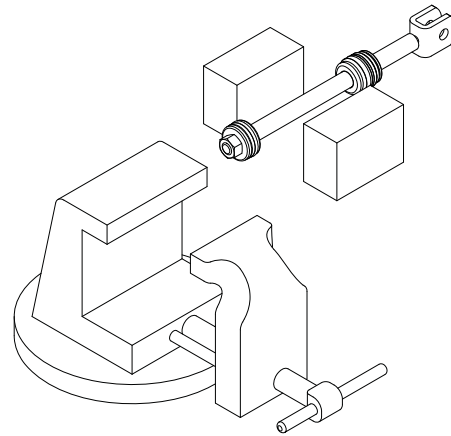

Figure 6-4, Cylinder Shaft
6. Clamp the rod assembly in a soft jawed vise on the wrench flats, **not on the rod surface**. If the rod does not have wrench flats use two pieces of wood on both sides of the rod to prevent scaring. (Figure 6-4)